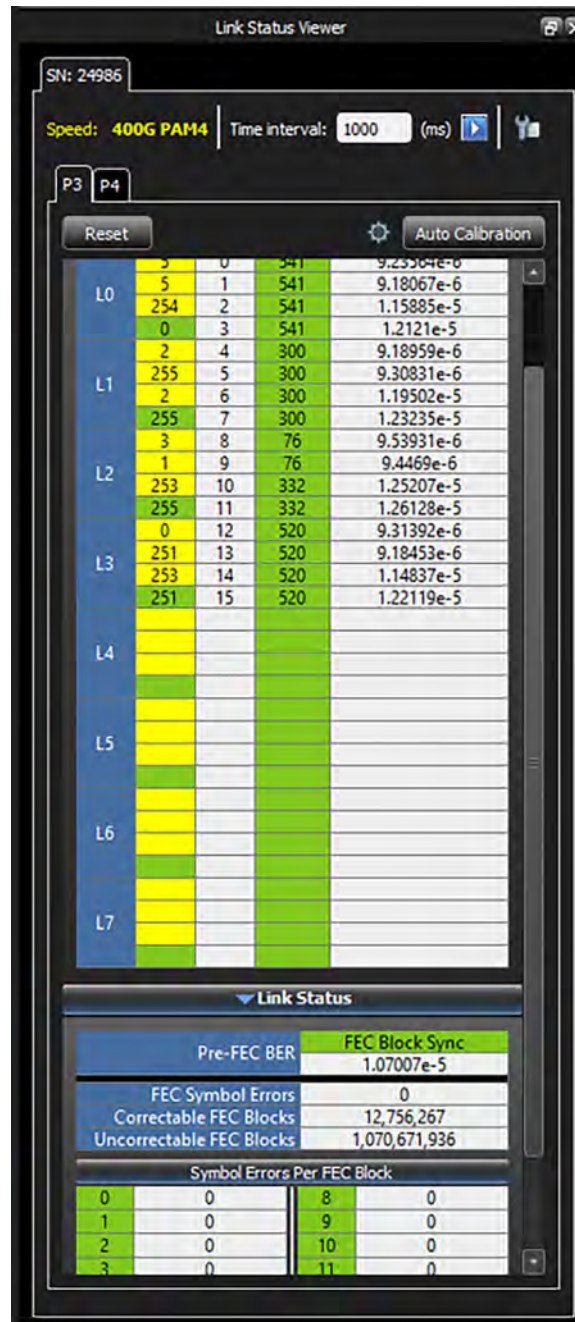

Figure 4.10: Link Status Window
- The Link Status window displays on the main Net Protocol Suite window, as shown in Figure 4.10.